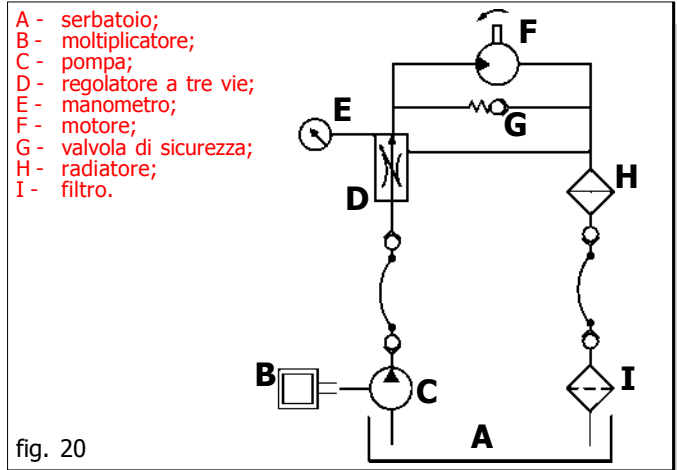

fig. 20
- Oil supply: follow the data in the table in Fig. 20.